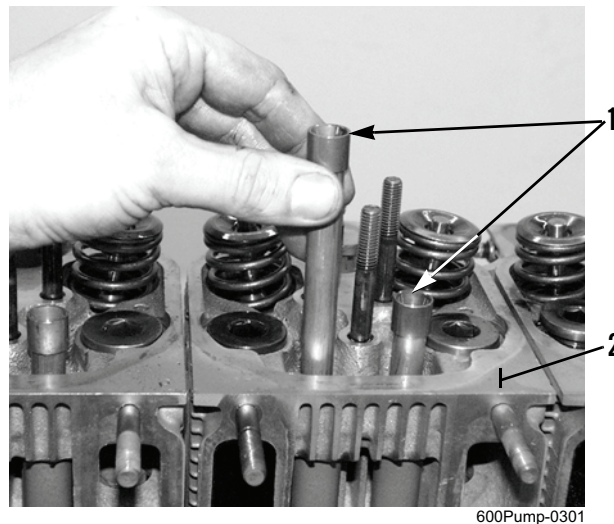

Figure 20. Pushrods.
16. Install two pushrods (Figure 20, Item 1) in cylinder head (Figure 20, Item 2).